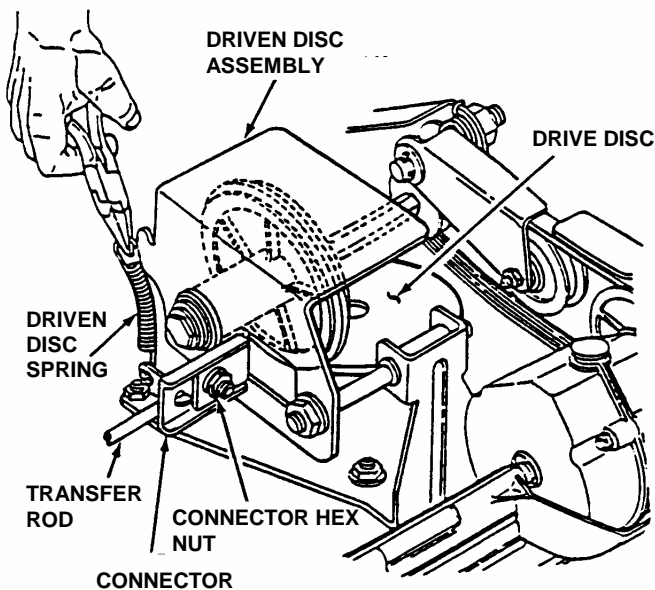

FIGURE 8
B. Remove driven disc spring from driven disc assembly as shown. Loosen connector hex-nut. See Figure 8.